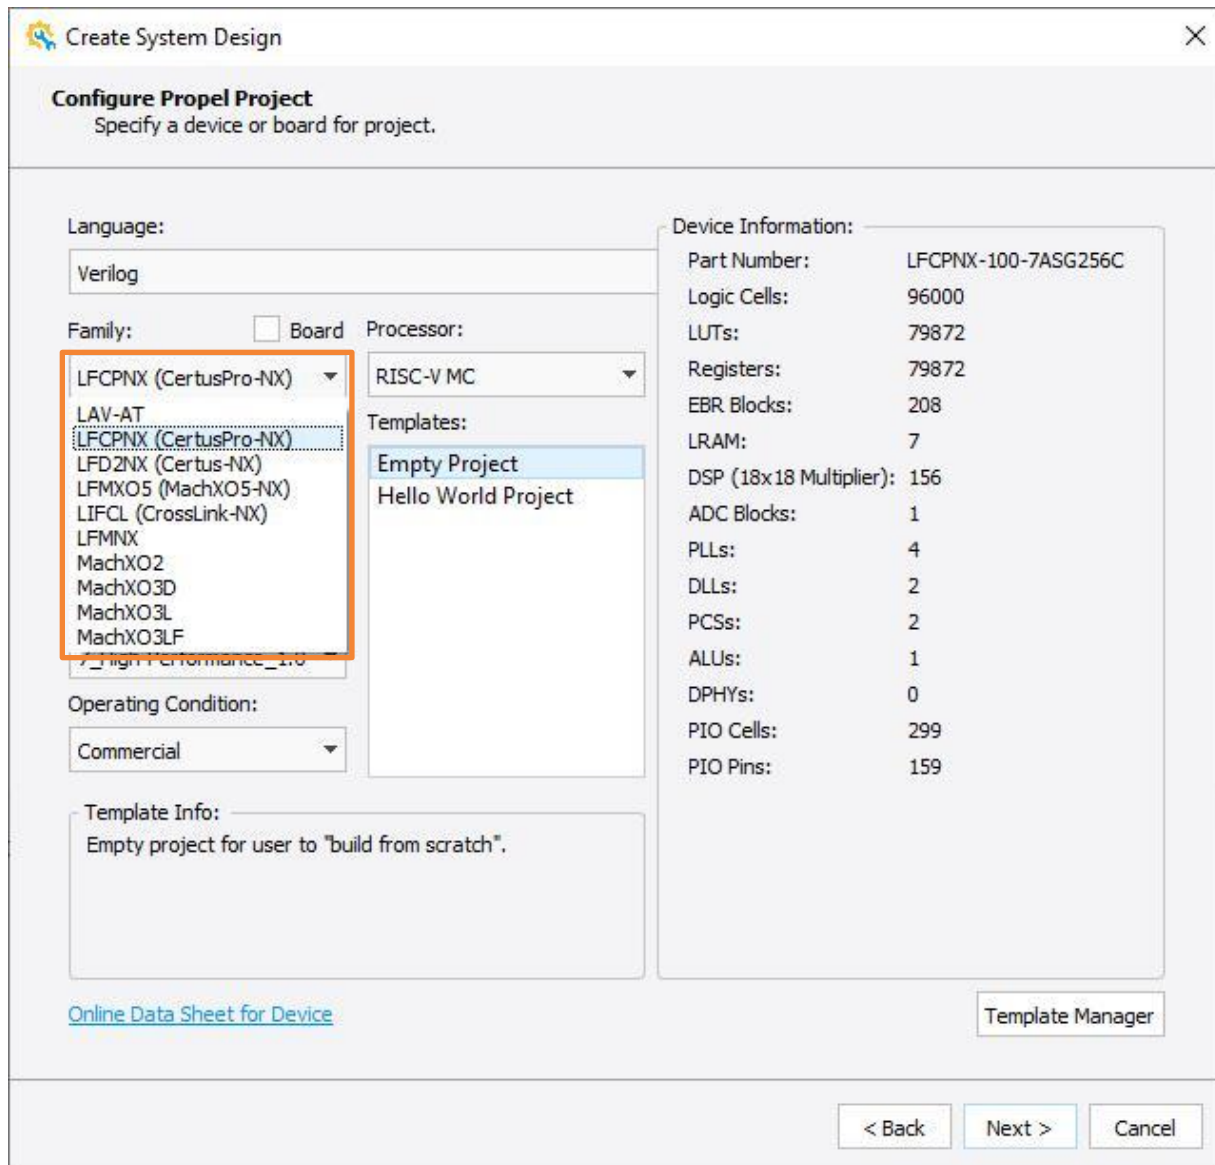

Figure 2.11. Specify a Device for Template SoC Project (2)
- To specify a device for your new Template SoC project, use the drop-down menu to select desired device information (Family, Device, Package and Speed), and select **Hello World Project** from the Templates field (Figure 2.11).